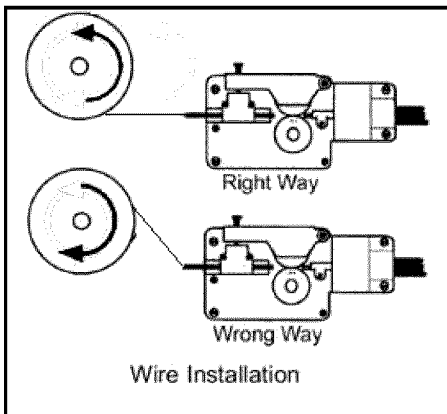
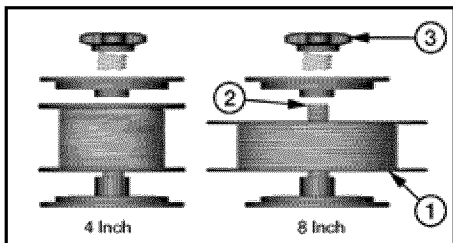

Fig. 4
Fig. 5
2.4 Place the spool (Fig. 5, 1) on the spool hub (Fig. 5, 2) so the wire will pull off the bottom of the spool. The welding wire should always come off the bottom of the spool into the drive mechanism. (Fig. 4)
2.5 The welder can use either 4 inch or 8 inch spools. See Figure 5 for additional reference. The thumb nut (Fig 5, 3) is used to tighten the spool onto the spool hub and controls the tension of the spool.